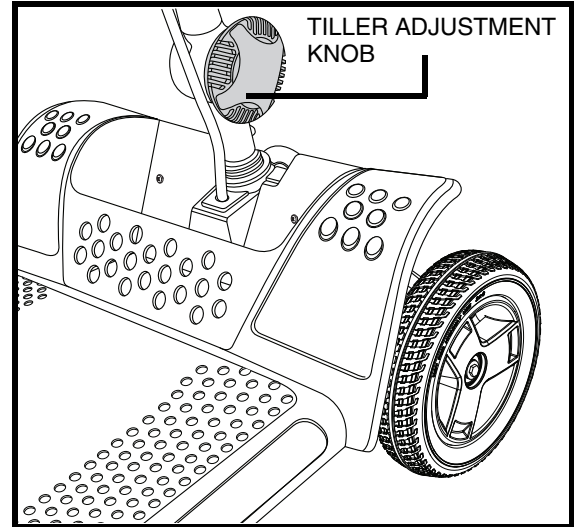

Figure 16. Tiller Adjustment Knob
1. While supporting the tiller, turn the tiller adjustment knob counterclockwise to loosen the tiller. See figure 16.